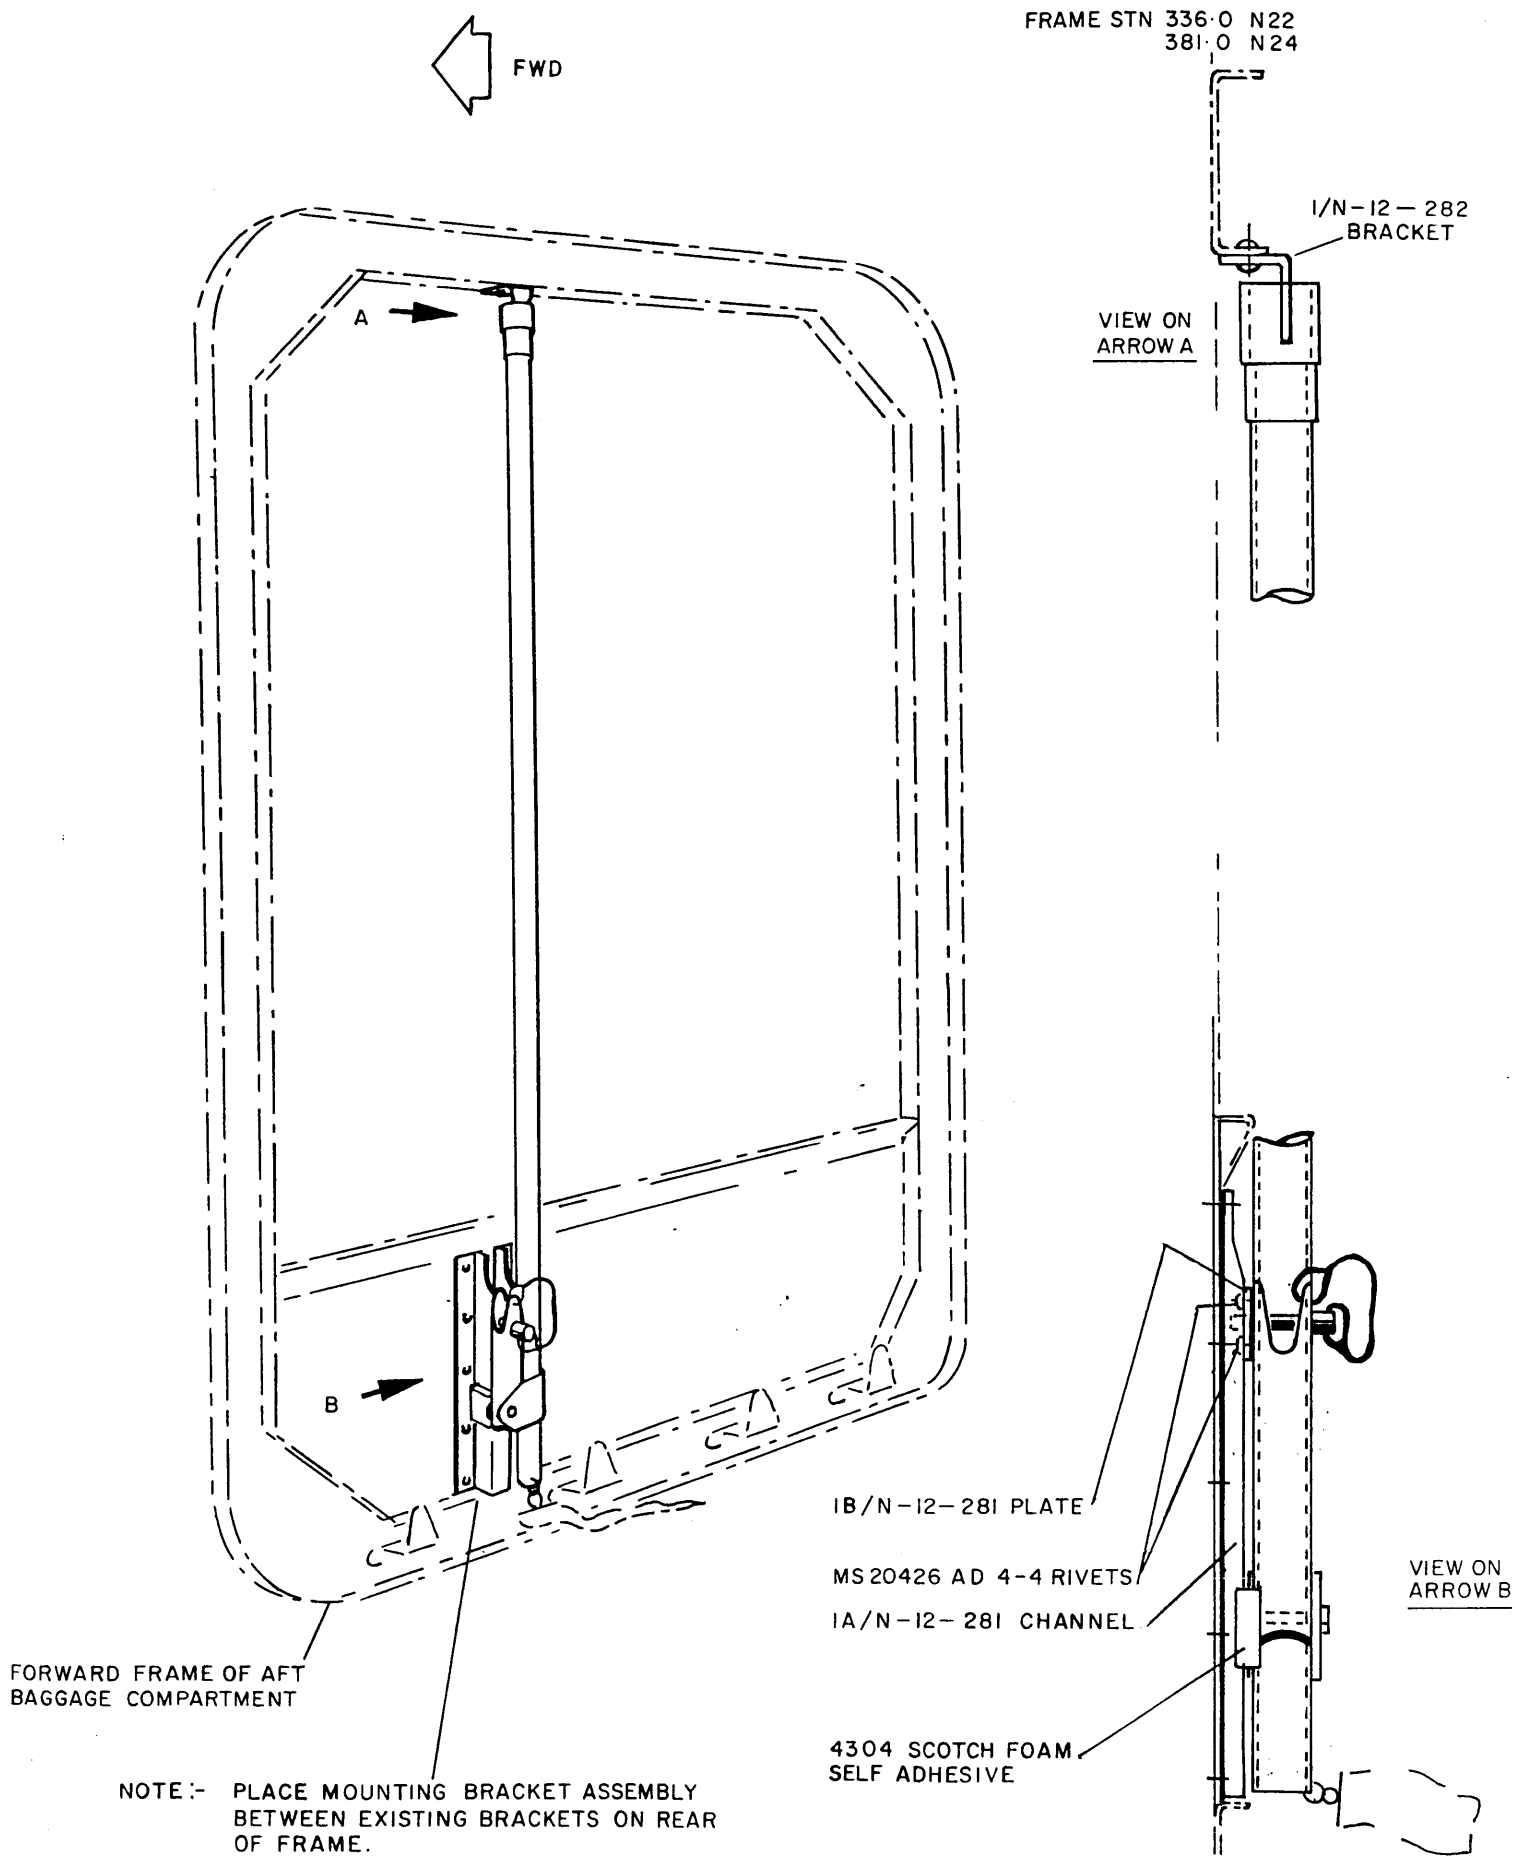

FIGURE 2
- (10) Fix the support bracket for the stowage of the gust lock stay in the rear baggage compartment as shown in Figure 2. Fit the top bracket P/N 1/N-12-282 first and locate the lower bracket using the gust lock stay to obtain the correct distance and alignment.
Mount the gust lock stay on stowage brackets in the rear baggage compartment or rear cabin section as detailed in Figure 2.
NOTE: Stowage of the gust lock as shown in Figure 2 is optional. If an alternative stowage is used, operators should ensure that the gust lock is safely and securely stowed.